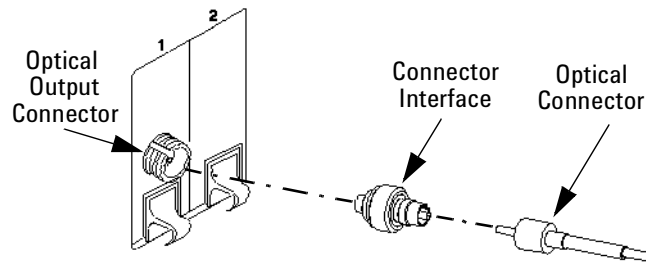

Figure 195 Adding a Connector Interface
- 2** Connect the connector interface to the optical output connector of the module, see Figure 195 .